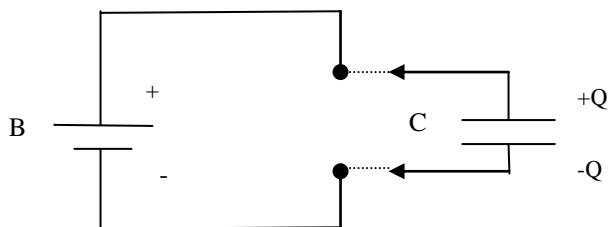
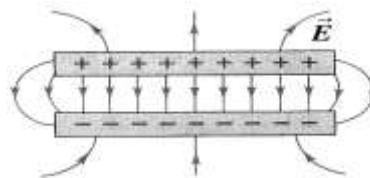

Fig.1
Fig.2
- One can model a **battery** (B in fig.1) as a "electric energy container" that **keeps constant** the difference of **potential  $V^1$**  between its terminals when a *device* or a *circuit is connected to them*. Once the plates of a capacitor C get connected (by metallic wires) to battery terminals, they get terminal potential and this builds the difference of potential **V** between the capacitor plates. The *electromotor force "emf"* of battery removes some free  $e^-$  from one plate of capacitor, this way charging it positively "+" and transfers the **same number** of  $e^-$  to the other plate of the capacitor (charging it negatively "-"). At the end of transfer, each plate gains the same amount of charge ( $+Q, -Q$ ). Each of these two charges is distributed uniformly on the inner surface of one **conducting plate**(fig.2). As the areas of the plates are equal, each of them get the same charge density  $\sigma$  (but opposite sign). It comes out that, **for a given potential difference V** between them, **the plates of a capacitor can host only a precise amount of charge "Q"**. Once this amount  $Q$  is stored on the plates, the battery does not remove any more charges and the process of the charge transfer stops. Assume that, after this moment, one disconnects the battery. The charges  $+Q, -Q$  will remain on conducting plates (Fig.2) and the capacitor will keep the same difference of potential  $V$  between its plates.
- The Fig.2 presents the electric field in the empty space between two plates of a capacitor. One may neglect the small areas close to plate corners and consider only *the field in central region*. In this region one can use the model of field built by a charge  $Q$  *distributed uniformly on a large plane*. We have found that this field is **uniform**, directed perpendicular **to the plane** and its magnitude is  $|E| = \frac{\sigma}{2\epsilon_0}$ . Since